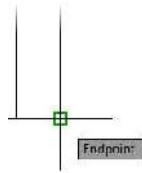

FIGURE 4.47: Specifying the start point for the ARC command
4. Activate the Endpoint osnap (type **END**↓), and pick the right endpoint of the upper jamb line, as shown in Figure 4.47.